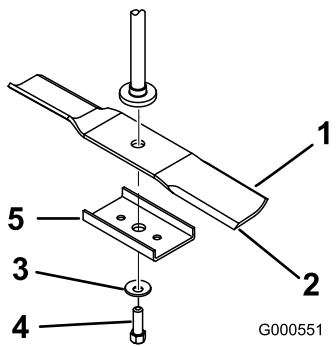
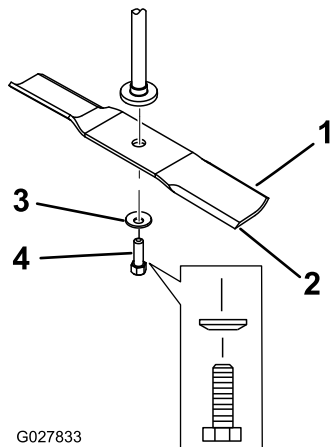

Figure 53
Figure 54
2. Remove the blade stiffener (32-inch decks only), blade bolt, the curved washer, and the blade from the spindle shaft (Figure 53 and Figure 54).
- Install the blade onto the spindle shaft (Figure 54).
- Install the blade stiffener (32-inch decks only), curved washer (cupped side toward the blade), and blade bolt (Figure 54).